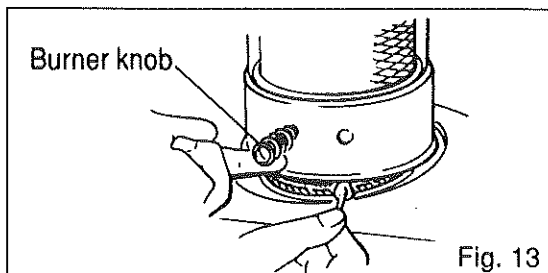

Fig. 13
- A broken igniter wire or dead batteries should be replaced with new ones. If a match is used, open the guard and light as illustrated. (Fig. 13)